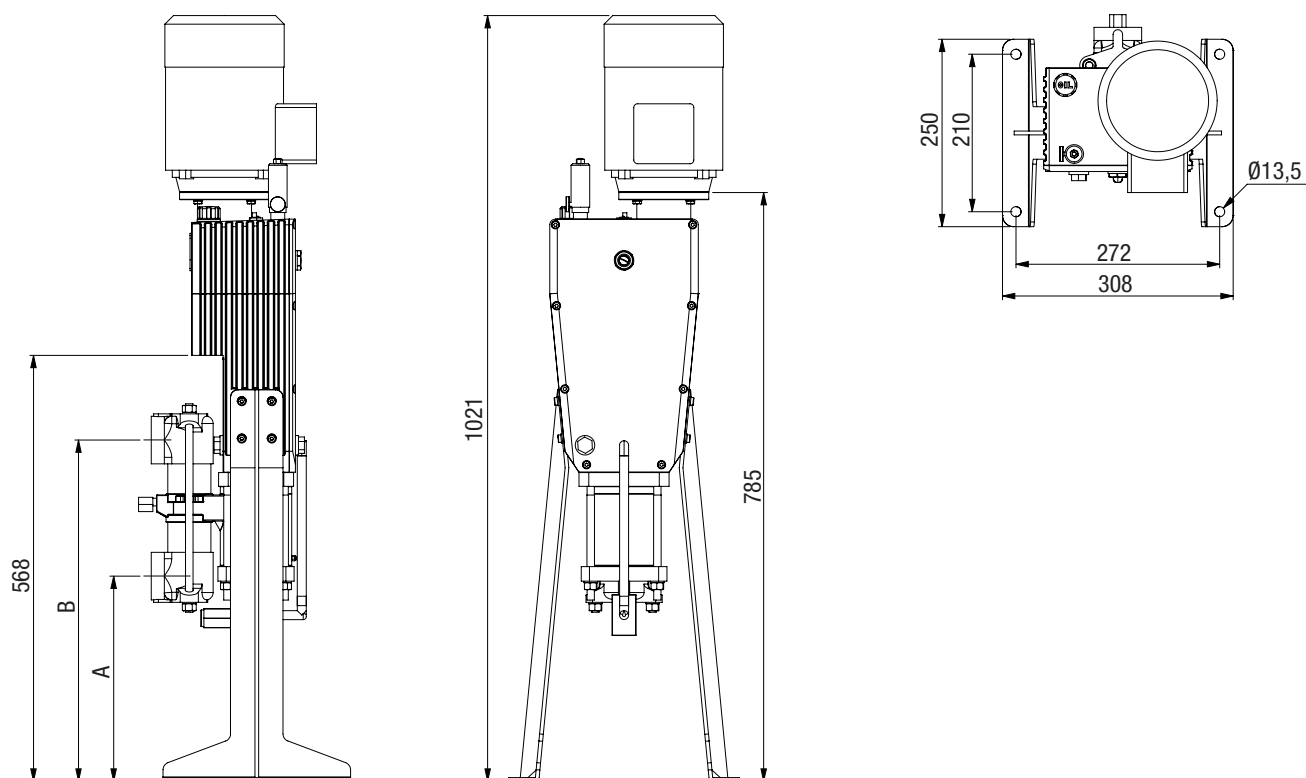

Fig. 6: Dimensional drawing MEMDOS KMS LB/LA
- The dosing heads are standardly fitted in a certain direction (see Fig. 6: Dimensional drawing MEMDOS KMS LB/LA“ on page 17). The 1.5“ and 2“ dosing heads can also be fitted in the opposite direction.